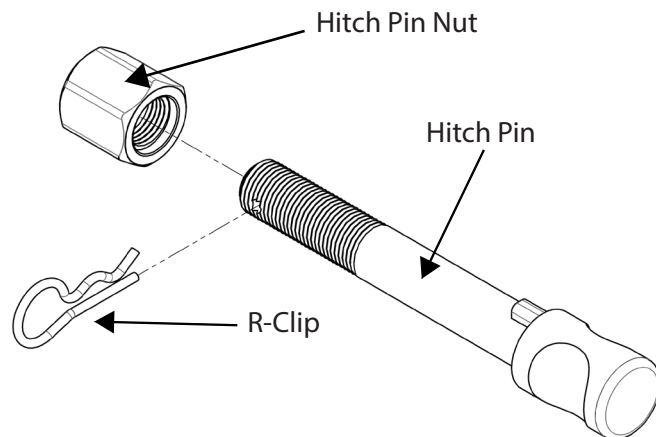

Fig 1. Silent Anti-Rattle Hitch Pin assembly
**Figs 1 remove
Install HITCH PIN R CLIP through the hole on the HITCH PIN (Fig. 1).